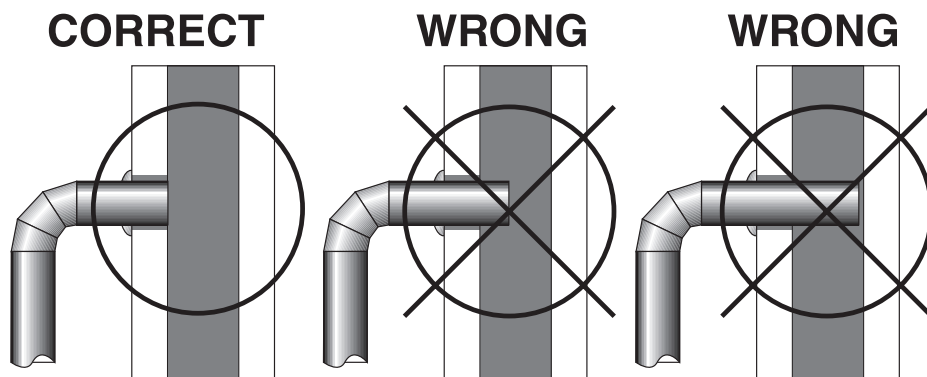

Figure 8 – Stovepipe/Flue Connections
1. The crimped end of the stovepipe fits inside the stove flue collar. Secure with three (3) equally spaced sheet metal screws. The first section of connector pipe must be single walled to properly attach to the stove collar. Install additional pipe and elbow with the crimped end towards the stove. This will allow any condensation in the flue to run back into the firebox.
4. The pipe cannot extend into the chimney flue (figure 8).
5. Secure all pipe/elbow sections with three (3) equally spaced sheet metal screws at each joint to make the piping rigid. **DO NOT CONNECT THIS STOVE TO ANY AIR DISTRIBUTION DUCT OR SYSTEM.**
6. It is recommended that no more than two (2) 90° bends be used in the stovepipe installation. The use of more than two 90° bends may decrease the amount of draw and possibly cause smoke spillage. Where possible, use only corrugated (non adjustable) elbows. These provide a better seal.
7. The pipe must not pass through an attic or roof space, trusses, closet, or any concealed space, floor, ceiling, wall, or combustible construction. (See Chimney Connector Systems & Clearances, page 17.) A manufactured chimney system listed to UL 103 HT (US)/ULC-S629 (CAN) must be used from the first penetration of ceiling or wall to the chimney cap.